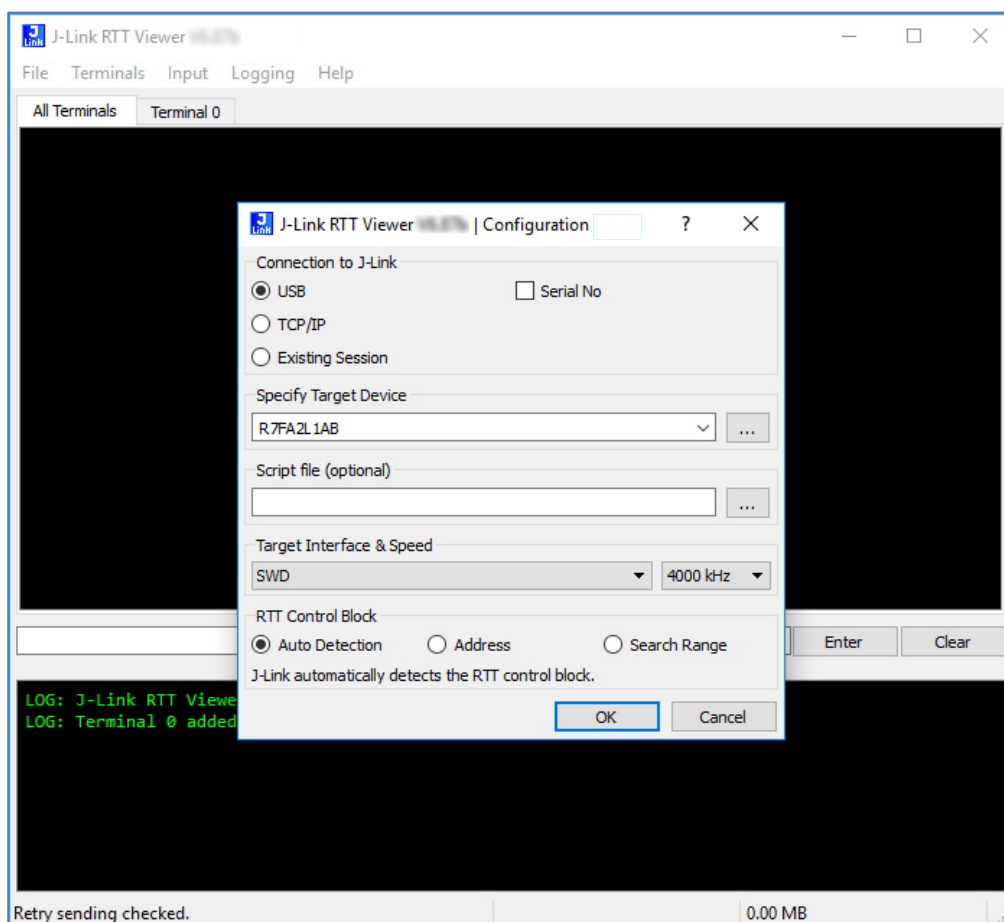

Figure 4. RTT Terminal Setup
| Figure 4. RTT Terminal Setup .....                                                 | 10 |
5. The RTT settings are shown in Figure 4.